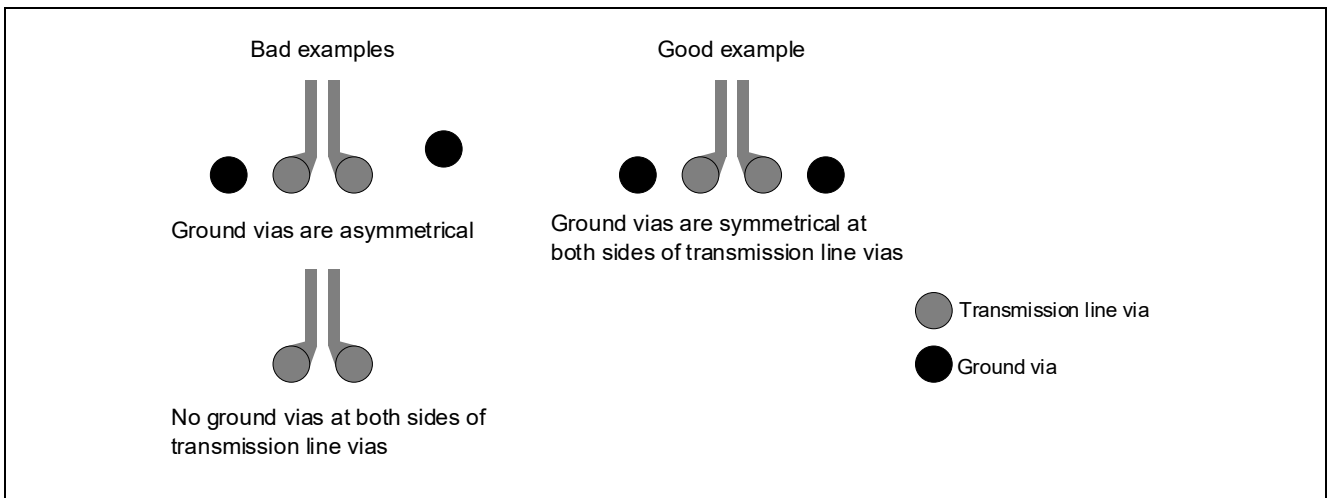

Figure 2.2 Examples of ground vias placement
- At both sides of transmission line vias, allocate symmetrical ground vias. Figure 2.2 shows examples of ground vias placement.